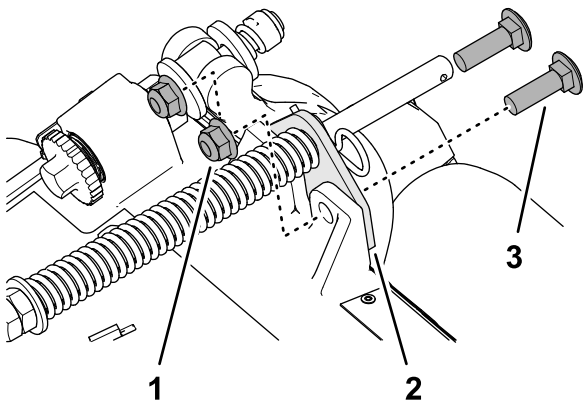

Figure 17
2. Remove the 2 flange locknuts (3/8 inch) and 2 carriage bolts (3/8 x 1-1/4 inches) that secure the turf-compensator bracket to the cutting-unit frame (Figure 17).